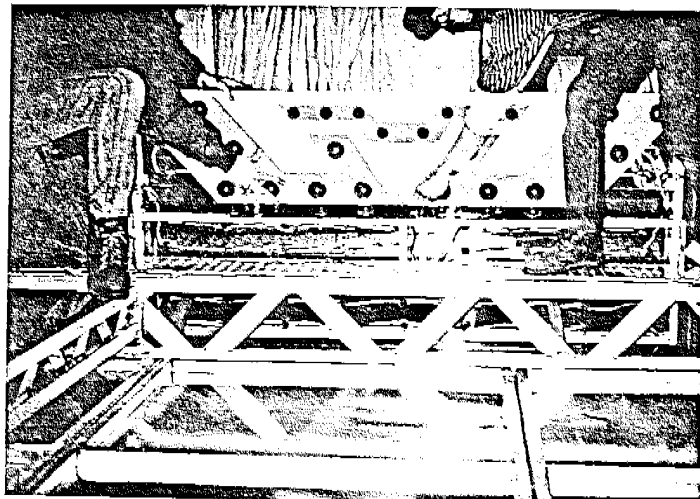

FIGURE 21
2. **UNFOLD ALL SCENERY** when installed. (See Figure 21).